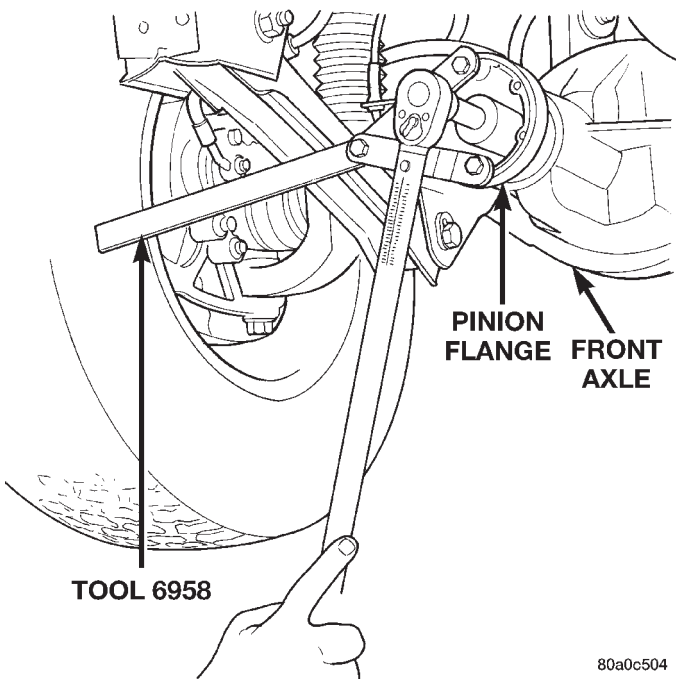

Fig. 16 Tightening Pinion Nut
(8) Using yoke holder 6958 and a torque wrench set at 353 N·m (260 ft. lbs.), crush collapsible spacer until bearing end play is taken up (Fig. 16).